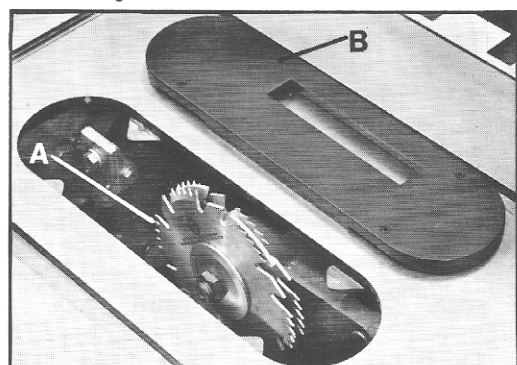

Fig. 44
The dado head set (A) Fig. 44, is assembled to the saw arbor in the same manner as the saw blade. The guard, splitter and anti-kickback finger assembly can not be used when dadoing and must be removed from the saw, as shown. Also, the accessory dado head table insert (B) Fig. 44, must be used in place of the standard table insert.